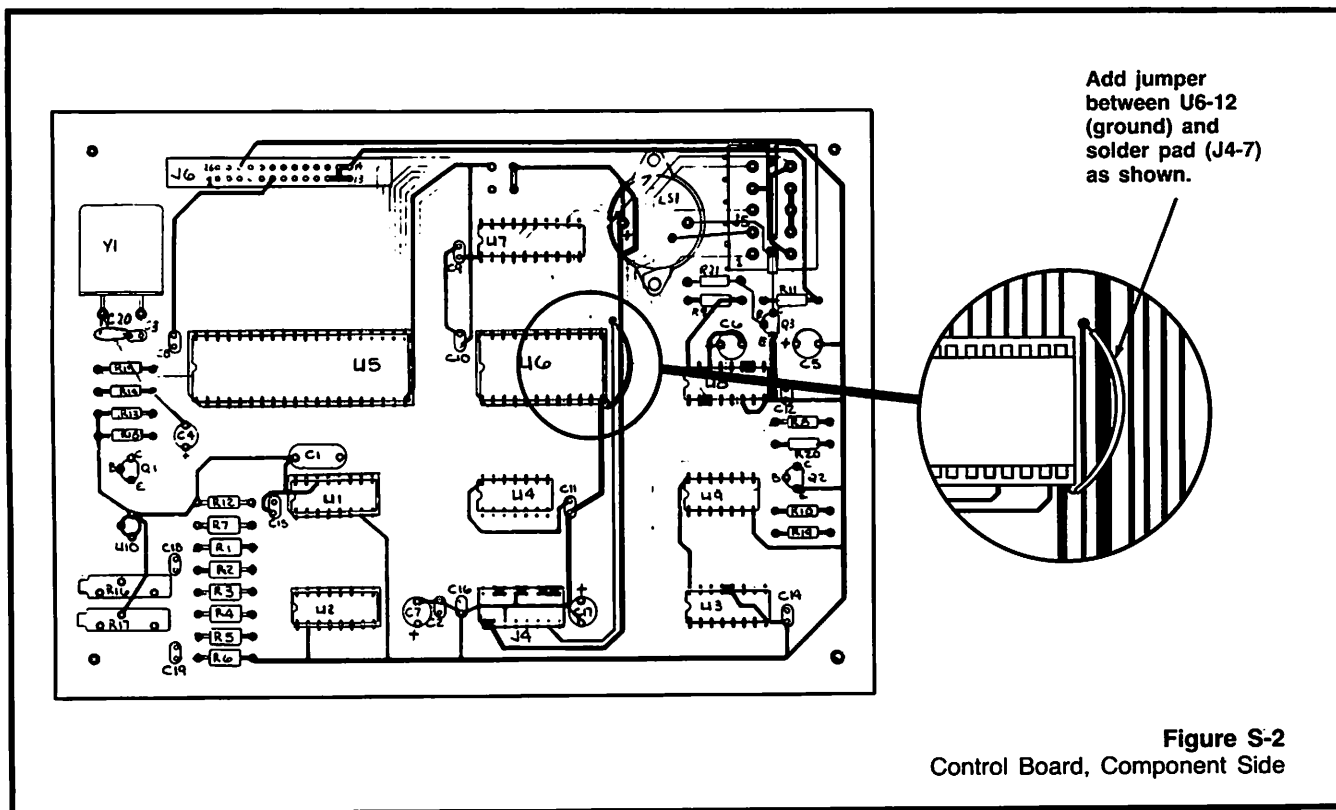

Figure S-2
9. Add an insulated jumper between U6 pin 12 and the unused solder pad on the trace coming from connector J4 pin 7 as shown in Figure S-2.